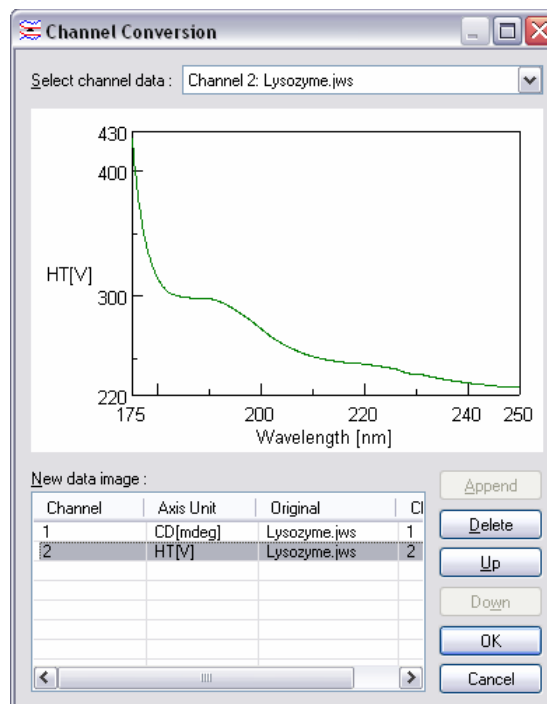

Figure 7.18 [Channel Conversion] dialog box
- (7) Click on the <Up> or <Down> buttons results in the channel number of the target spectrum (HT in Fig. 7.18) increasing (#2 -> #1) or decreasing (#1 -> #2), respectively.
- (8) Click on the <OK> button of Fig. 7.18. The following data is obtained.